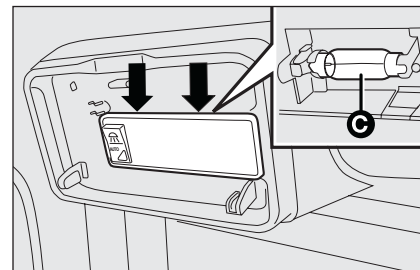

fig. 45
- ☐ replace bulb **C-fig. 45** after releasing it from the side contacts making sure that the new bulb is correctly clamped between the contacts.